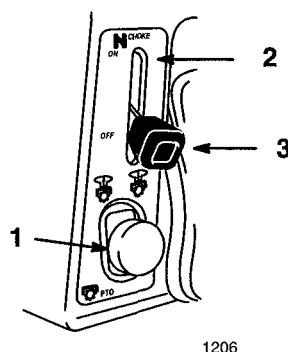

Figure 3
4. Push the PTO (power take off) to “OFF” (Fig. 3).
5. Move the choke lever to “ON” (Fig. 3).